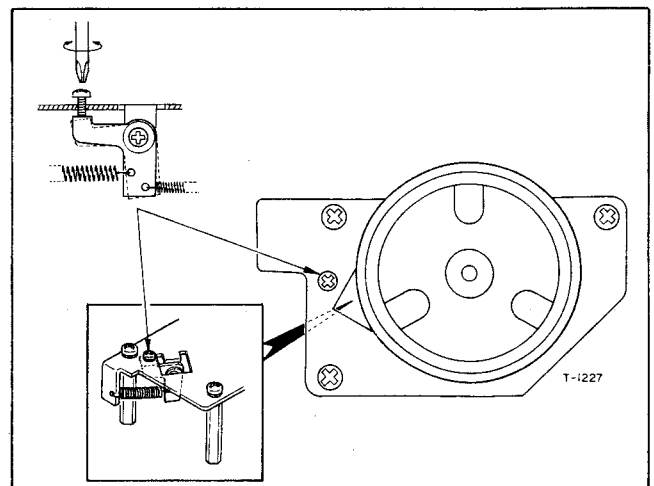

Fig. 7-7 Back Tension Adj. Screw Location
7. If adjustment is necessary, adjust the screw shown in Fig. 7-7.